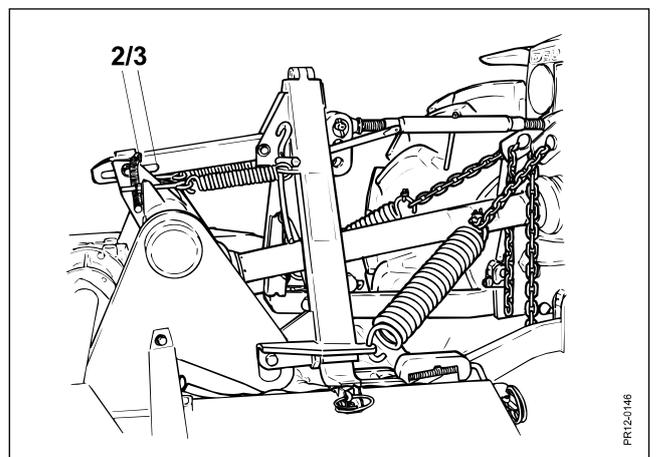

Fig. 2-6
- Fig. 2-6** The springs must be tightened so that the mower is horizontal when driving. For inclination forward tighten the springs, for inclination backward loosen the springs.